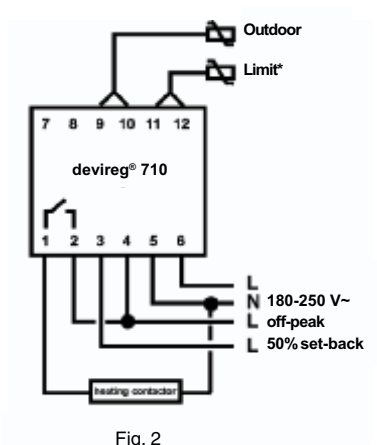

Fig. 2
4. The **devireg® 710** is connected as shown in fig. 2.